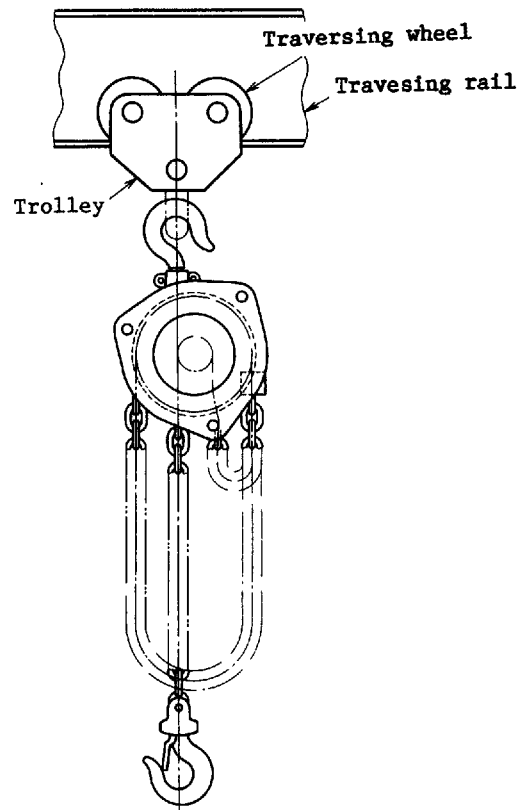

Fig. 3. Trolley combination type (geared trolley type) (an example)
- (3) Trolley combination type(⁴) (see Figs. 3 and 4)
- (1) Geared trolley type (see Fig. 3)